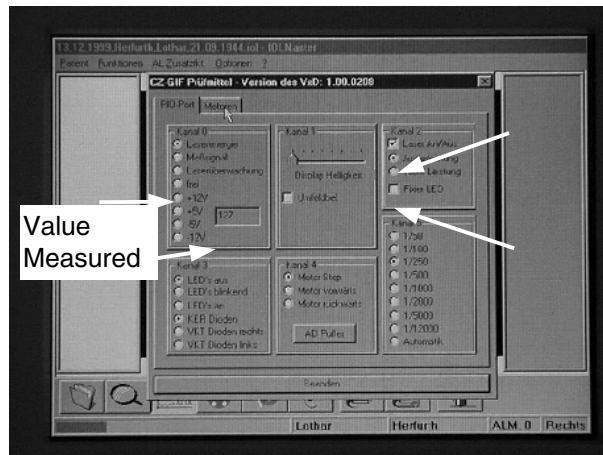

Fig. 3
- Click on the "Laser monitoring" and "100 % power" functions (see Fig. 3).
- Switch on the laser diode by clicking on the "Laser On/Off" function (see Fig. 3).